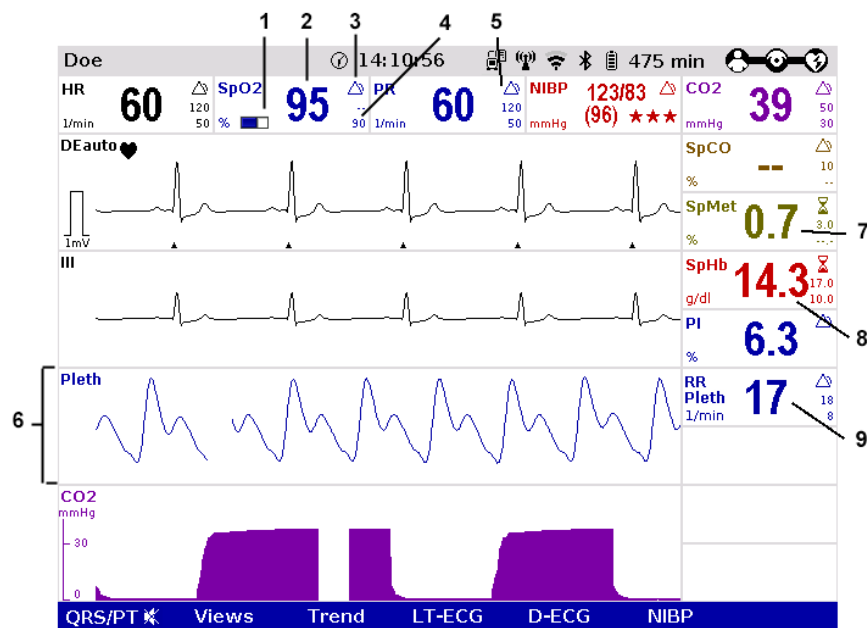

Fig. 6-21 Oximetry monitoring, configured screen (illustration may differ)
The signal intensity is a quality criterion for the capturing of measurement values. The signal intensity is measured and displayed as a horizontal bar in the parameter field SpO₂ (see page 132 Fig. 6-21, item 1).